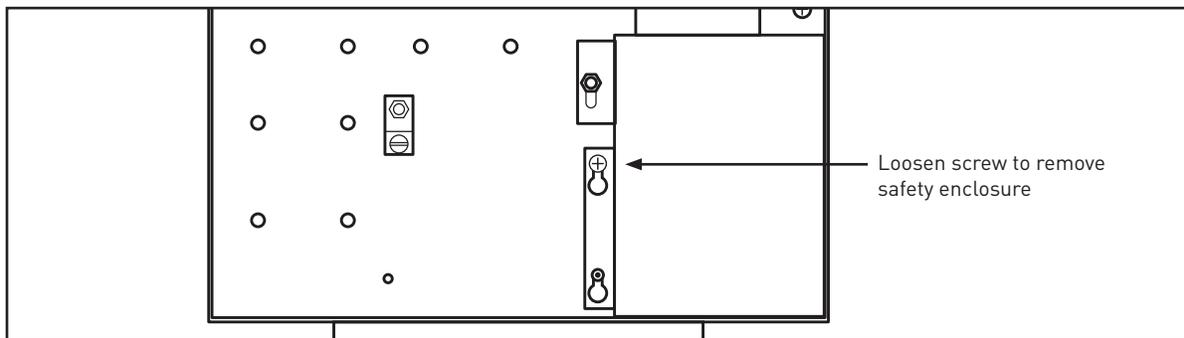

Figure 6. Transformer Safety Enclosure
Step 1 –To access the transformer, loosen the middle screw on the left side of the enclosure and pull up on the cover to loosen it from the pins holding it in place. See Figure 6.